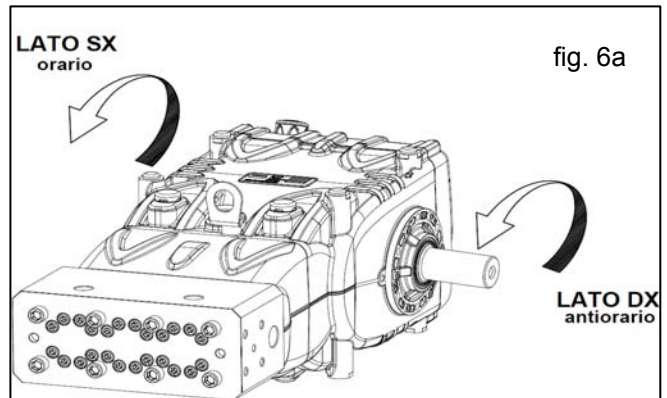

fig. 6a
- as per fig. 6a for versions without a reduction gear.